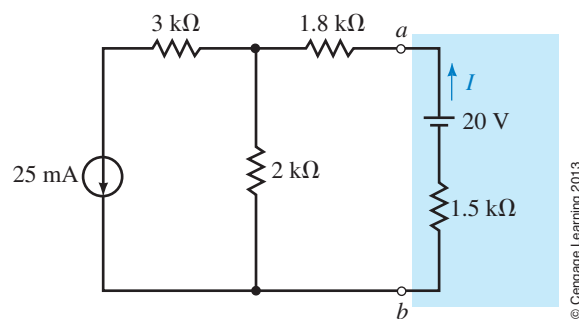

FIGURE 9-89
15. Refer to the circuit of Figure 9-89: